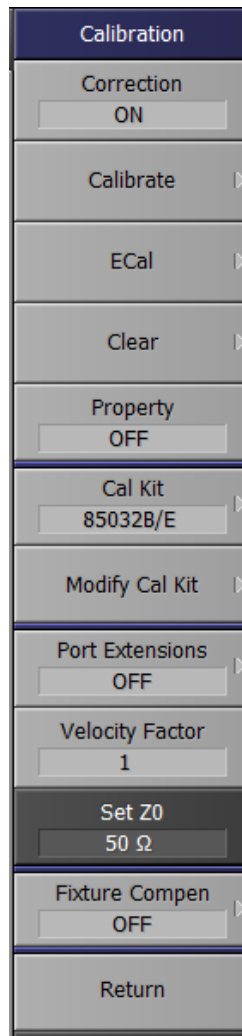

Fig. 17 - E5061B Calibration menu, where  $Z_0$  is highlighted.
Step 2: Set > **Rs**, by specifying under  $Z_0$  (as shown by Figure 17)
Step 10: Set > **Rs**, by specifying under  $Z_0$  (as shown by Figure 17)